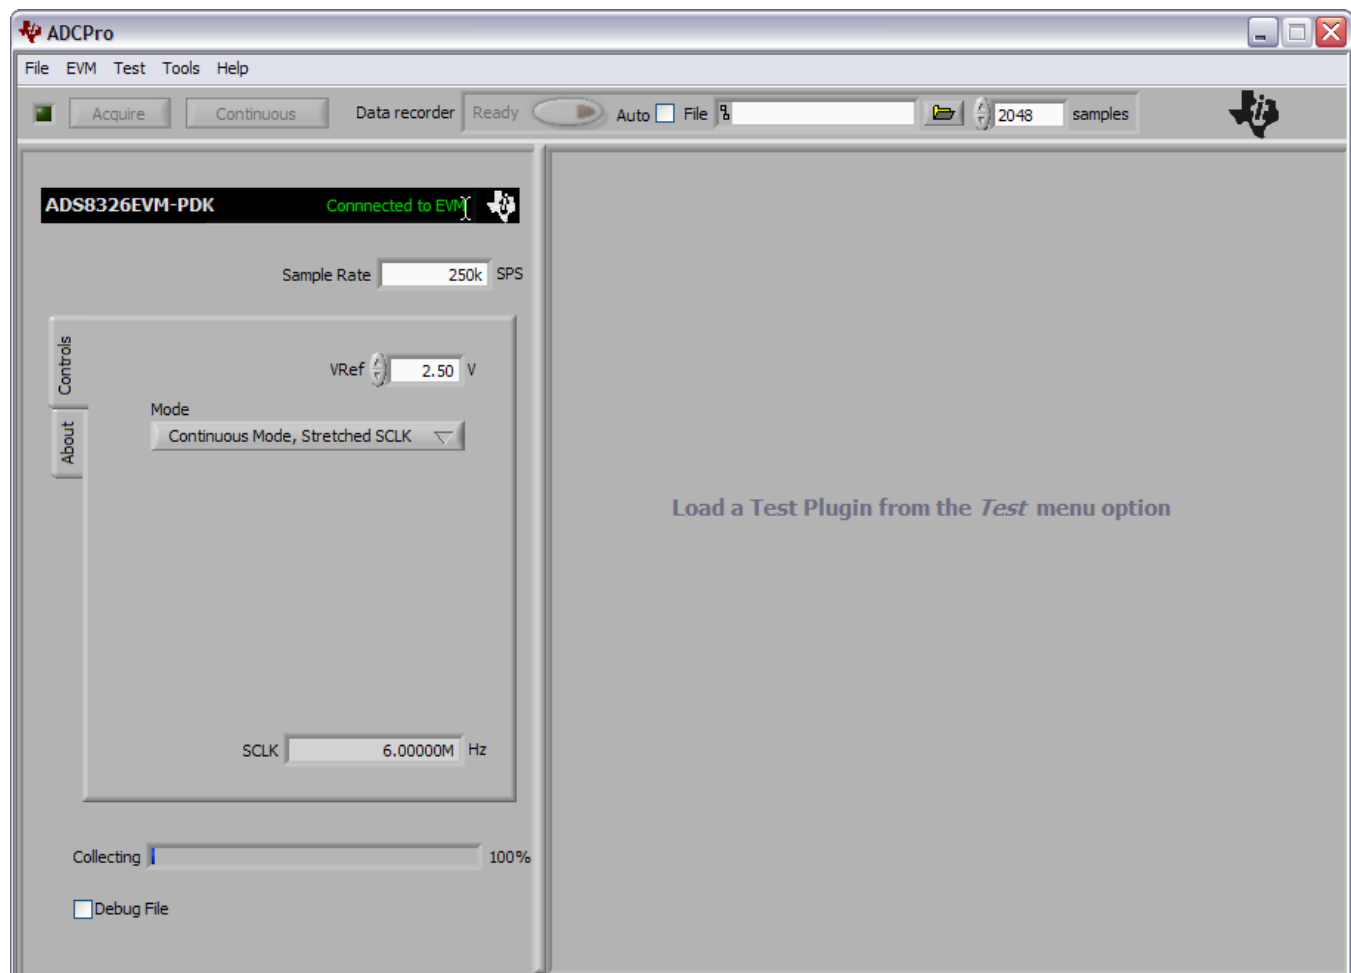

Figure 8. ADS8326EVM-PDK Plug-In Display Window
- Step 2. Select ADSXXXXEVM (where ADSXXXXEVM is the installed device which is to be evaluated) from the EVM drop-down menu. The ADSXXXXEVM-PDK plug-in appears in the left pane, as shown in Figure 8.